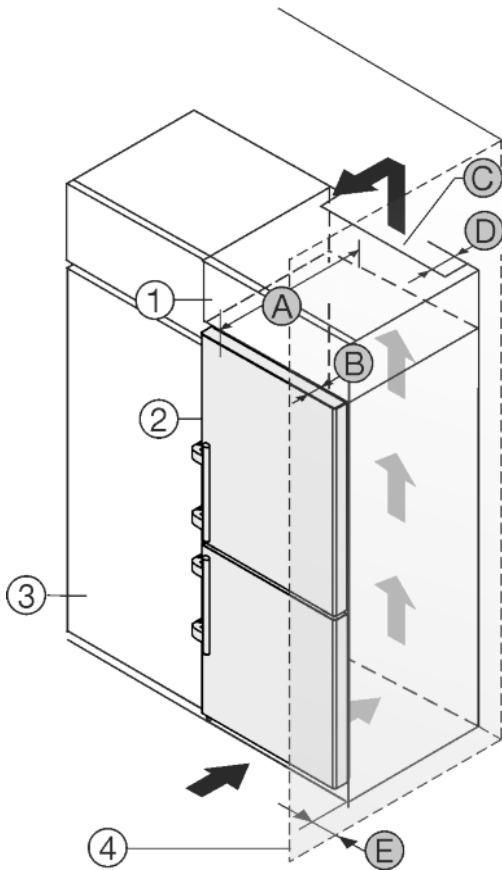

Fig. 12
The appliance can be built into kitchen units. A top cupboard Fig. 12 (2) can be added above the appliance in order to bring the appliance Fig. 12 (1) up to the height of the fitted kitchen units.
The appliance can be installed right next to the kitchen cabinet Fig. 12 (3). The appliance must stick out by the depth Fig. 12 (B) from the front of the cabinet so that the doors can be opened fully. The appliance may protrude further depending on the depth of the kitchen cabinets and whether wall spacers are used.
- There must be a ventilation shaft with the depth Fig. 12 (D) at the back of the top cupboard over the entire width of the cupboard.
- The ventilation shaft Fig. 12 (C) must be observed under the ceiling.
If the appliance is installed with the hinges next to a wall Fig. 12 (4) the distance Fig. 12 (E) between the appliance and the wall must be observed. This is how far the handle protrudes when the door is open.